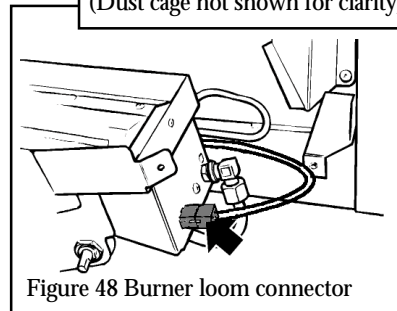

Figure 48 Burner loom connector
16.4.2 Detach the burner wiring loom connection at the right side of the burner (see figure 48).